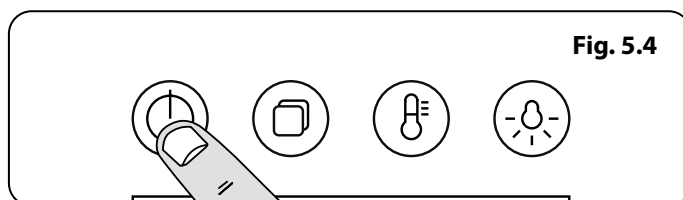
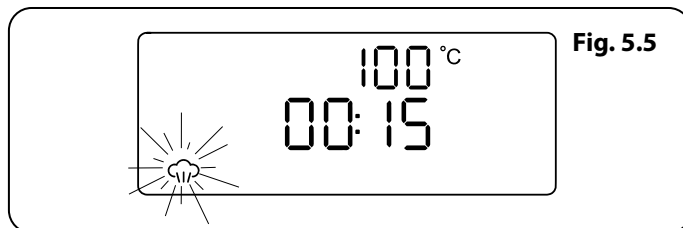

Fig. 5.4
Fig. 5.5
1. Touch and hold the standby button to switch the steam cavity on (**Fig. 5.4**). The display will show the maximum temperature; 100°C, a 15 minute cook time and the steam icon will flash (**Fig. 5.5**).